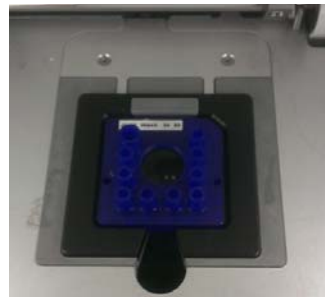

Figure 6. Chip in the LabChip GXII Touch instrument
- 5 Insert the chip into the LabChip GXII Touch instrument (Figure 6) and close the chip door securely.